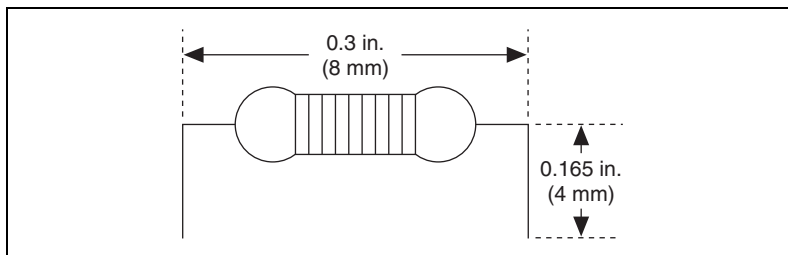

Figure 4-11. Preparing Lead Wires of Replacement Resistors
- Cut and bend the lead wires of the resistors you want to install. Refer to Figure 4-11.